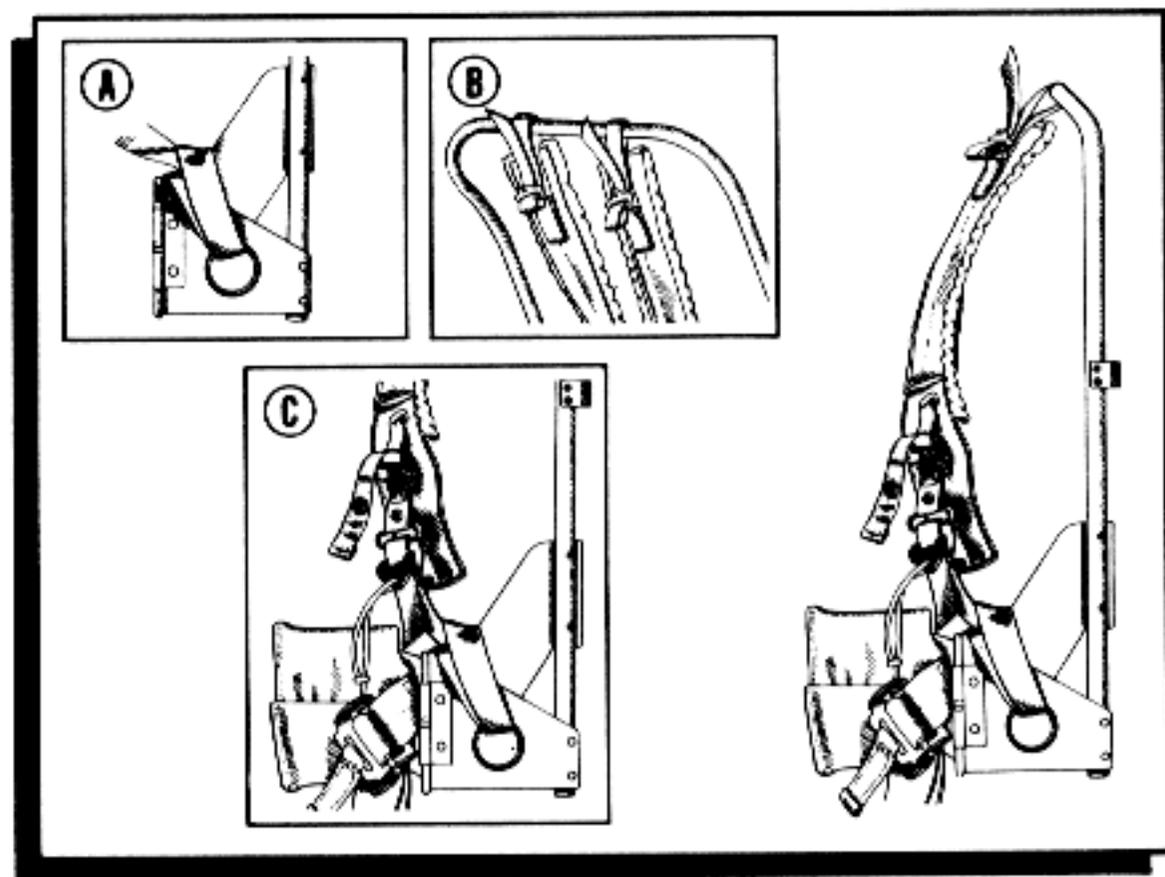

Figure 4-23. Attaching straps to pack frame.
**Attaching Shoulder Straps to Pack Frame.** Both shoulder straps have quick-release assemblies on them. To attach the straps (figure 4-23)—